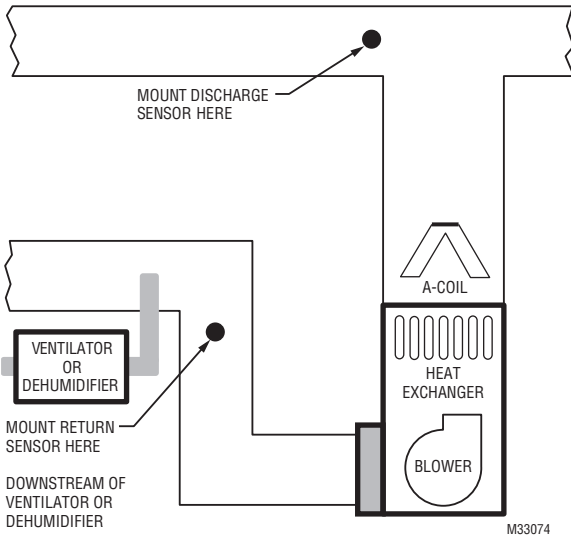

Fig. 5.
Refer to the guidelines below and Fig. 5–9 for mounting locations of the Discharge and Return Air Temperature Sensors.
1. Mount the Discharge Air Temperature Sensor on the supply duct in a location where the air is mixed well. Mount the Discharge Air Temperature Sensor out of sight of the A-Coil/Heat Exchanger when possible. See Fig. 5.
1. Install the Return Air Temperature Sensor on the return duct in a location where the air is mixed well. Mount the Return Air Temperature Sensor downstream of a Bypass Humidifier, Dehumidifier or Ventilator. See Fig. 5–9.